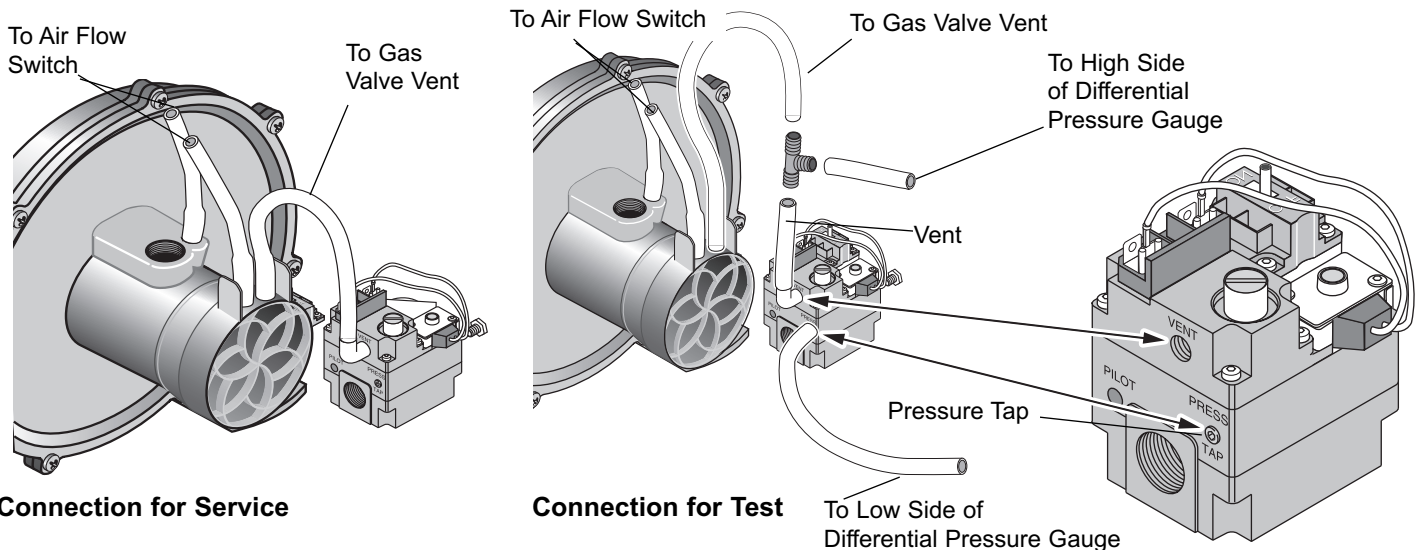

FIGURE 20: Connect Gas Valve to End Cap Air Orifice
The combination gas valve incorporates dual shut-off valves and a negative-pressure regulator. For proper operation, the regulated pressure at the outlet manifold of the valve must be  $0.2$ " ( $0.5\text{cm}$ ) wc below the reference pressure at the blower mixer inlet, and the gas valve 'VENT' tap must be connected to the endcap air orifice as shown in Figure 20.
4. Disconnect the tube from the Gas Valve 'VENT' port. Connect it to a tube with a tee running to the high side of a differential pressure gauge and to the blower's air orifice grille (See Figure 20).